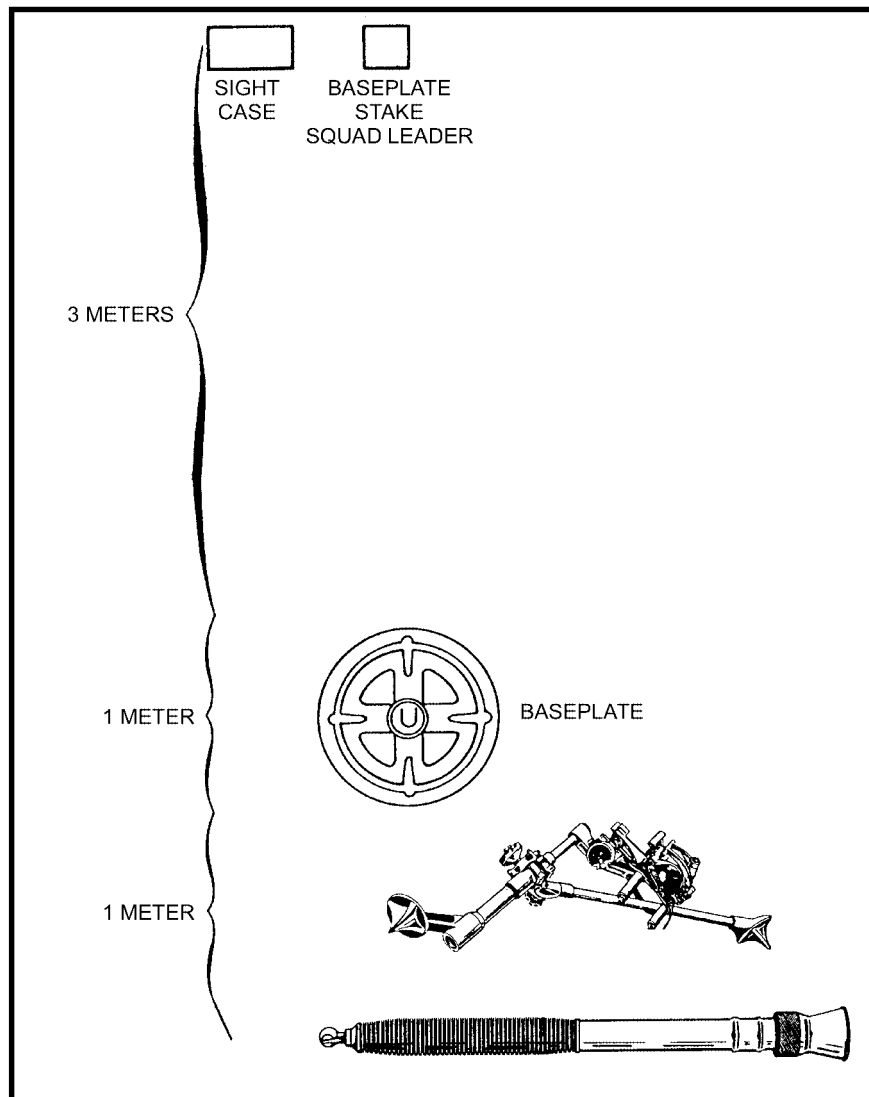

Figure 4-6. Layout of equipment.
- (1) The barrel is clean and free from grease and oil both inside and out.
- (2) The breech plug is screwed tightly to the barrel.
- (3) The firing pin is secured correctly.
- (4) The blast attenuator device is secured correctly.
- d. The squad leader supervises the squad drill and is responsible for supervising the laying out of the equipment as shown in Figure 4-6, page 4-8. The equipment is placed out the same as for the gunner's examination (Chapter 9).